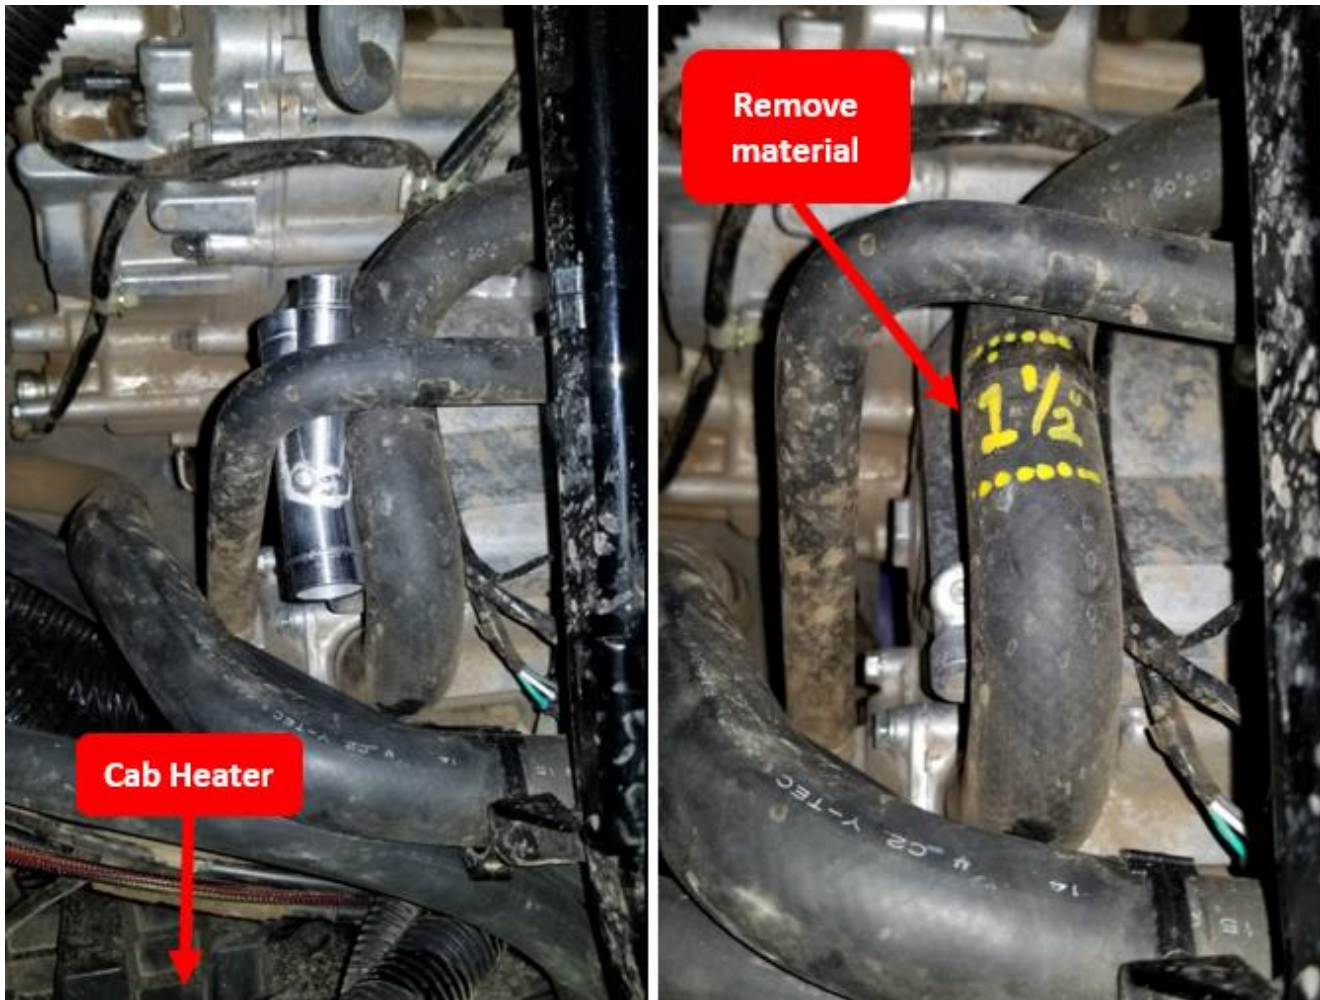

Figure 15
50. In the engine compartment, identify the hose shown in Figure 15. Mark two lines 1 ½" apart as shown in Figure #15 so that the 1" aluminum Y can be centered between the two 90 degree bends in the hose. The intent is avoid unnecessarily increasing the bend angle of that formed hose.
51. Cut the hoses and install the remaining 1" Aluminum Y so that the Y faces the one direction of hARRY styles shown in Figure 15. Secure the larger ends using #16 Hose Clamps.